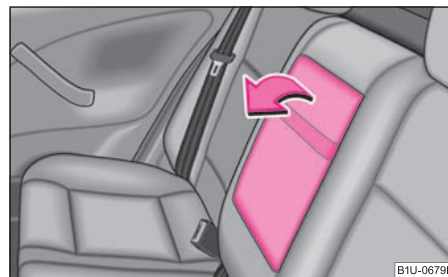

Fig. 96 Rear seats: Armrest
- The armrest can be folded forwards in direction of arrow with the aid of the belt ⇒ fig. 96. ▶